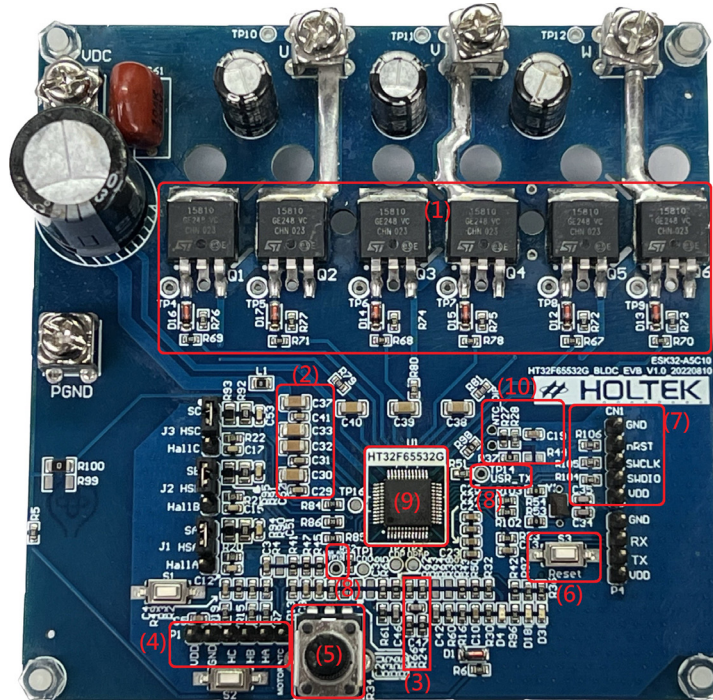

Figure 1-1 BLDC Motor Workshop HT32F65532G_BLDC_EVB Front View
The HT32F65532G_BLDC_EVB_V1.0 is shown in Figure 1-1. The framed part (1) in Figure 1-1 is the MOSFET inverter. The framed part (2) in Figure 1-1 is the 12V and 5V LDO output circuit. The framed part (3) in Figure 1-1 is the differential amplifier current sampling circuit. The framed part (4) in Figure 1-1 is the Hall sensor interface. The framed part (5) in Figure 1-1 is the VR variable resistor. The framed part (6) in Figure 1-1 is the Reset button. The framed part (7) in Figure 1-1 is the SWD programming interface. The framed part (8) in Figure 1-1 is the Motor Workshop communication interface. The framed part (9) in Figure 1-1 is the HT32F65532G device. The framed part (10) in Figure 1-1 is the MOSFET temperature feedback circuit.